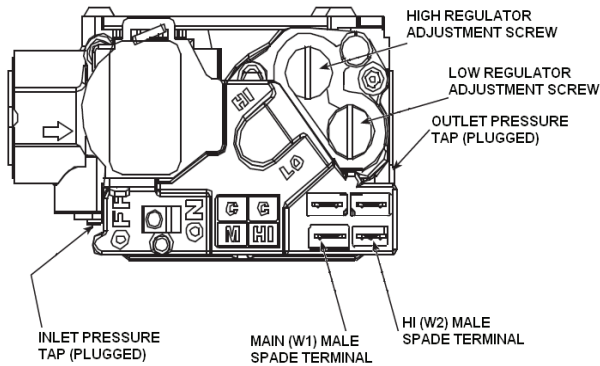

Fig. 38 - 48PD Gas Valve
6. Remove screw cap covering regulator adjustment screw. (See Fig. 38.)